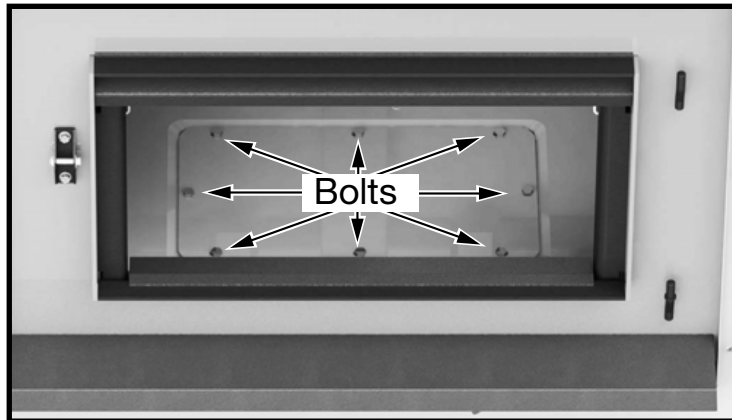

Figure 3: Access panel bolts.
2. Remove the bricks to expose the access panel, then remove the 8 bolts holding the access panel using a 7/16" socket or wrench (Figure 3).